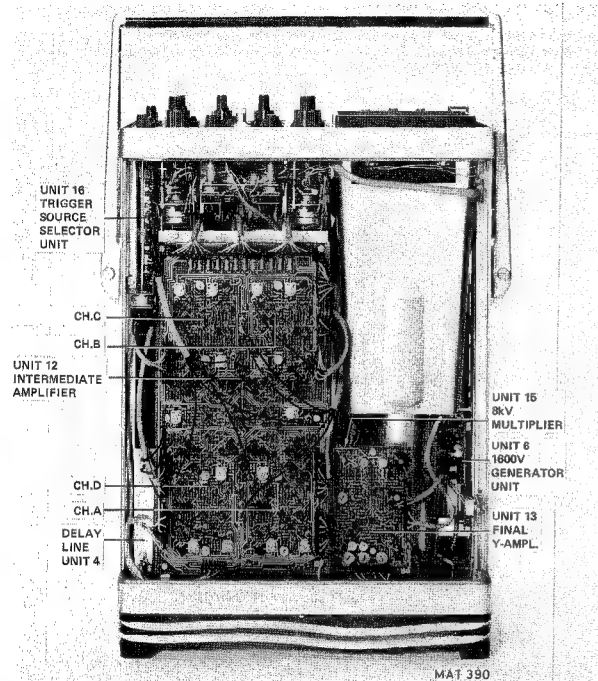

Fig. 3.4. Unit location, top view
This section provides the dismantling procedures required for the removal of components during repair and routine maintenance operations. All circuit boards removed from the oscilloscope should be adequately protected against damage, and all normal precautions regarding the use of tools must be observed. During dismantling procedures, a careful note of all leads disconnected must be made so that they may be reconnected to their correct terminals during assembly. For unit-location refer to Fig. 3.4 and 3.5.
3.4.8. Removing the intermediate amplifier circuit board (fig. 3.4)
3.4.9. Removing the final Y amplifier circuit board (fig. 3.4)
3.4.10. Removing the trigger source selector circuit board (fig. 3.4)
3.4.11. Removing the delay line (fig. 3.4)